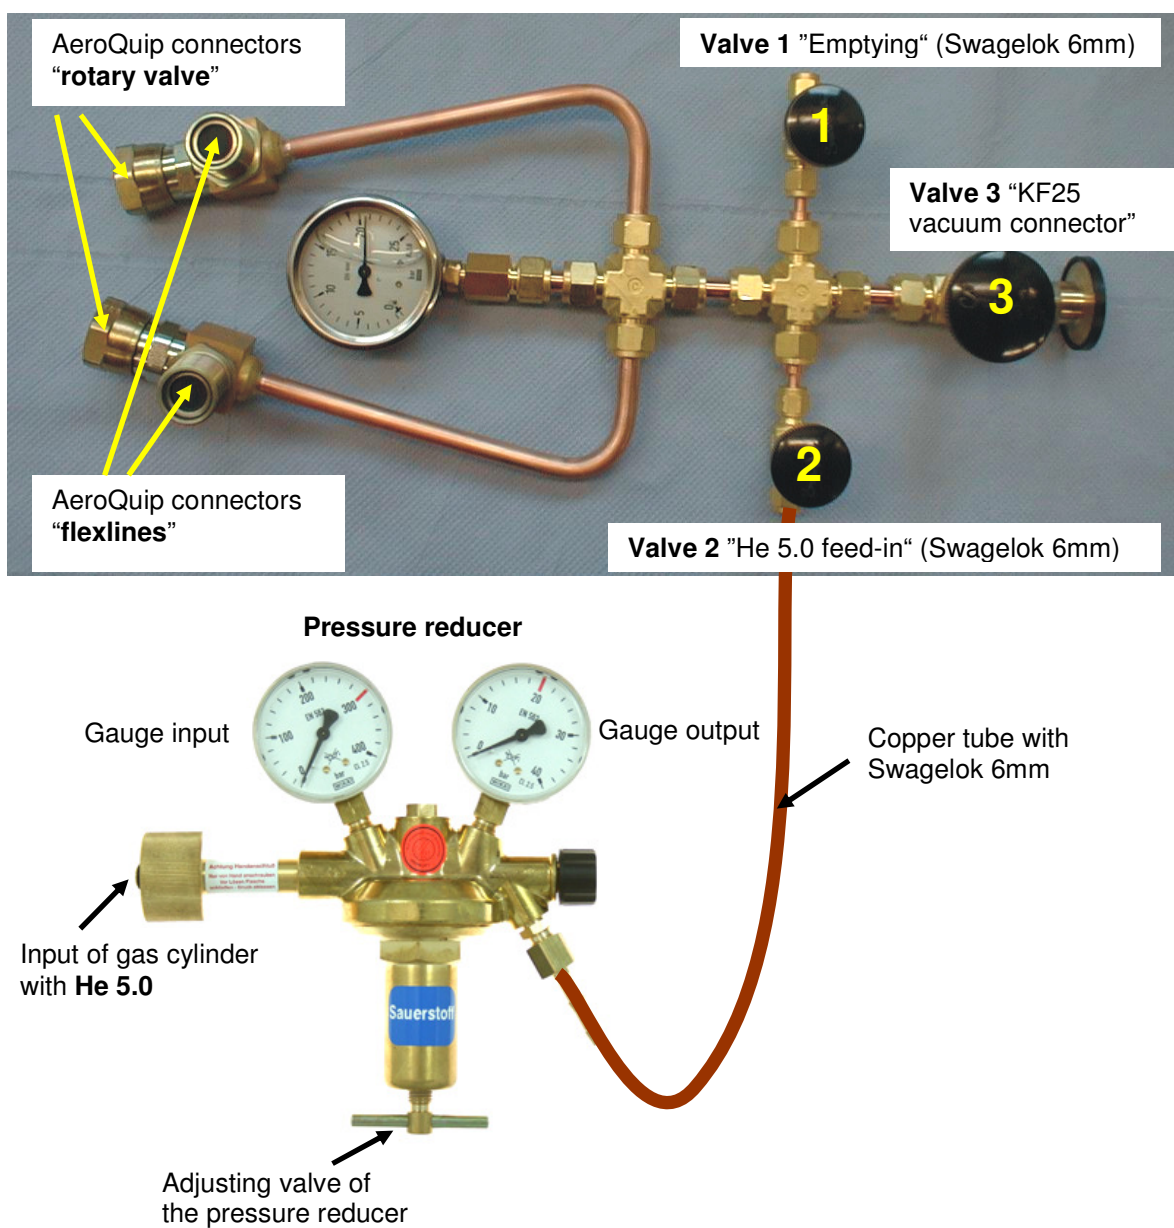

Figure 20: Pump- and Purge-Unit for Cryocooler and Helium-Compressor
3. Connect the two Aeroquip connectors labelled "rotary valve" (see Figure 20) of the pump- and purge-unit to the rotary valve of **the cryocooler**.
4. Connect the two Aeroquip connectors labelled "flexlines" (see Figure 20) of the pump- and purge-unit to the **two flexlines (including the compressor)**.
5. Connect a vacuum pump to valve no. 3 (labelled "KF25 vacuum connector", see Figure 20) by using the accessory 1m long KF25-metal-tube.
7. Connect valve no. 2 (labelled "He 5.0 feed-in", see Figure 20) to the pressure reducer of a Helium gas bottle (He 5.0 or higher purity) by means of the enclosed 6 mm copper tube. **The valve of the Helium gas cylinder must be closed, and the adjusting valve of the pressure reducer must be closed (This valve must be unscrewed)!**
9. Use valve no. 1 (labelled “emptying”, see Figure 20) to discharge the component connected to the pump-and purge-unit to about 3 bar.
3. **Directly after sub step 2!** detach both flexlines and connect **immediately** the pump- and purge-unit by connecting the two Aeroquip connectors labelled “rotary valve” (see Figure 20) of the pump- and purge-unit to the rotary valve of the cryocooler. (**All three valves of the pump- and purge-unit must be closed**)
4. Use valve no. 1 (labelled “emptying”, see Figure 20) to discharge the cryocooler to a pressure of about 3 bar (4 bar absolute pressure). The pressure gauge of the pump- and purge-unit shows relative pressure.
6. Connect a vacuum pump to valve no. 3 (labelled “KF25 vacuum connector”, see Figure 20) by using the accessory 1m long KF25-metal-tube.
7. Connect valve no. 2 (labelled “He 5.0 feed-in”, see Figure 20) to the pressure reducer of a Helium gas bottle (He 5.0 or higher purity) by means of the enclosed 6 mm copper tube. **The valve of the helium gas cylinder and the adjusting valve of the pressure reducer must be closed! (The pressure reducer valve must be unscrewed)!**
9. Use valve no. 1 (labelled “emptying”, see Figure 20) to discharge the cryocooler to about 3 bar.
10. Use valve no. 1 (labelled “emptying”, see Figure 20) to discharge the cryocooler to a pressure of 0.1 bar (1.1 bar absolute pressure). The pressure gauge of the pump- and purge-unit shows relative pressure. Then close valve no. 1.
4. Connect only the two Aeroquip connectors labelled “flexlines” (see Figure 20) of the pump- and purge-unit to the two flexlines.
5. Continue with **steps 5. till 15.** as described in **part (A)** of this chapter . But **do not run the rotary valve!**
4. Connect only one Aeroquip connector labelled "flexlines" (see Figure 20) of the pump- and purge-unit to one Aeroquip connector of the filter cartridge.
5. Continue with **steps 5. till 15.** as described in **part (A)** of this chapter. But **do not run the rotary valve!**